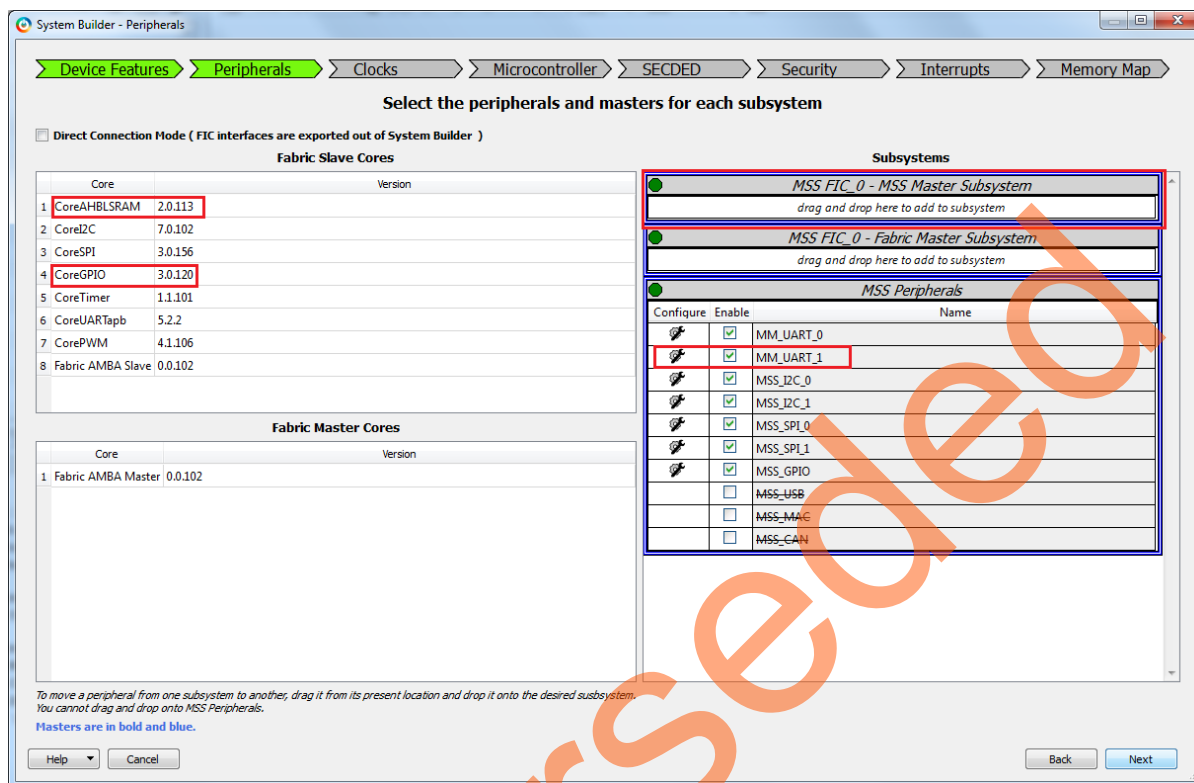
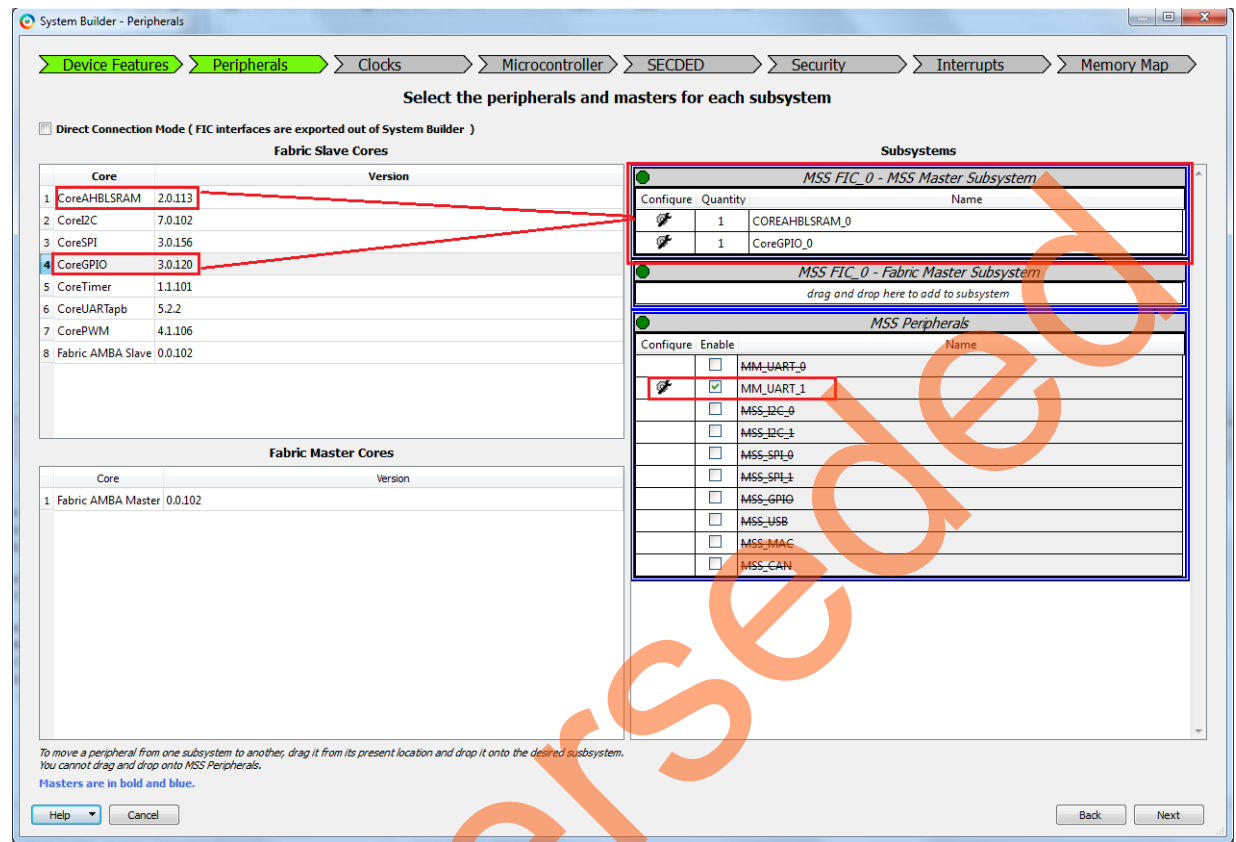
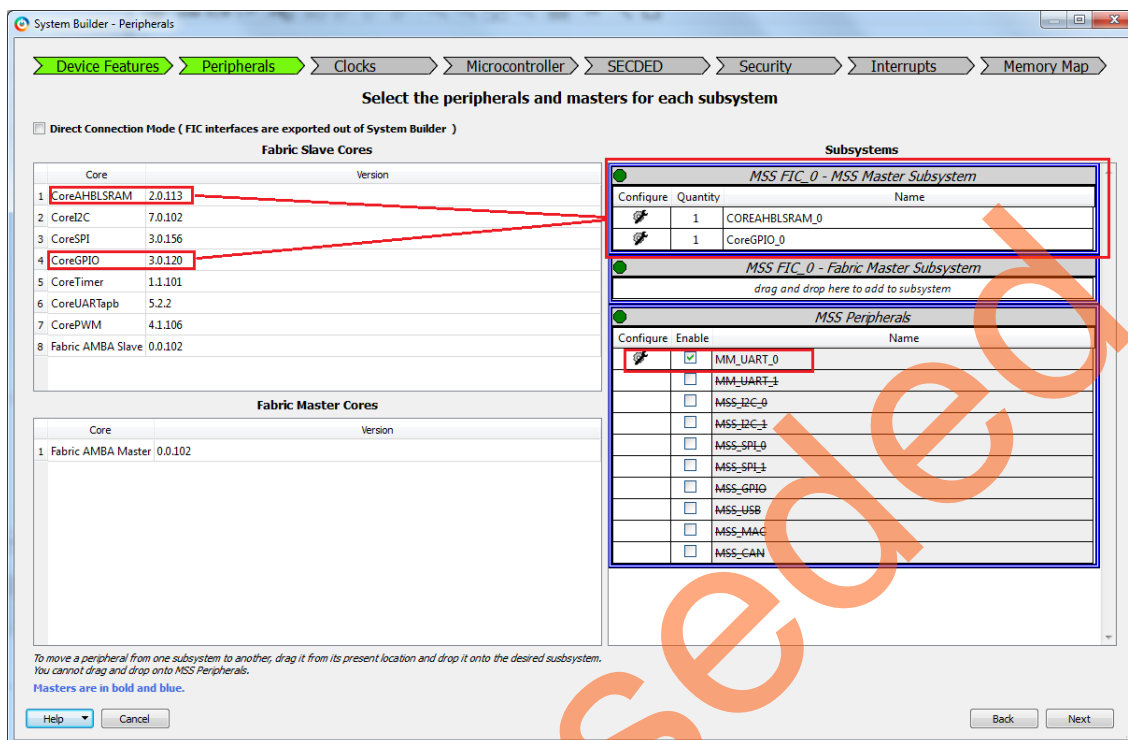

Figure 8 • SmartFusion2 System Builder Peripherals (M2S090TS Device)
Figure 9 • SmartFusion2 System Builder MSS Peripherals (M2S090TS Device)
Figure 10 • SmartFusion2 System Builder MSS Peripherals (M2S010T Device)
11. Select **Next**. **System Builder- Peripherals** page is displayed, as shown in Figure 8 and Figure 9 on page 11. This tutorial uses the MSS MMUART peripherals.
12. Select **MM_UART_1** for SmartFusion2 Security Evaluation Kit (**M2S090TS** device) or **MM_UART_0** for SmartFusion2 Starter Kit (**M2S010** device) and uncheck all the other peripherals, as shown in Figure 9 on page 11 and Figure 10 on page 12.
13. Drag the **CoreAHBLSRAM** and **CoreGPIO** IPs to **MSS FIC_0 - MSS Master Subsystem** for M2S090TS device, as shown in Figure 9. This tutorial uses the CoreAHBLSRAM and CoreGPIO IPs.
14. Drag the **CoreAHBLSRAM** and **CoreGPIO** IPs to **MSS FIC_0 - MSS Master Subsystem** for M2S010T device, as shown in Figure 10.